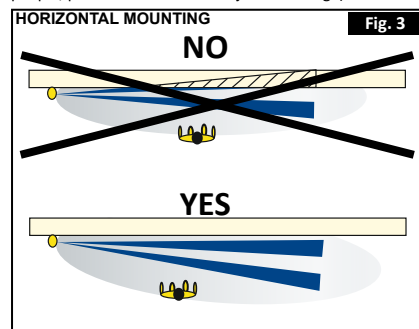

Fig. 3
For wall protection, avoid a sensitive area of the infrared being in contact with the wall so as not to nullify the benefit of the dual-element infrared sensor (Fig. 3 / 4). To remedy this, tilt the device a few degrees (<10°) outwards, taking care not to point the detector towards areas likely to cause false alarms (passage of vehicles or people, presence of unstable objects or foliage).
- HORIZONTAL/VERTICAL PERIMETER (Fig. 3 / 4): is indicated in situations where there is a need for perimeter protection.